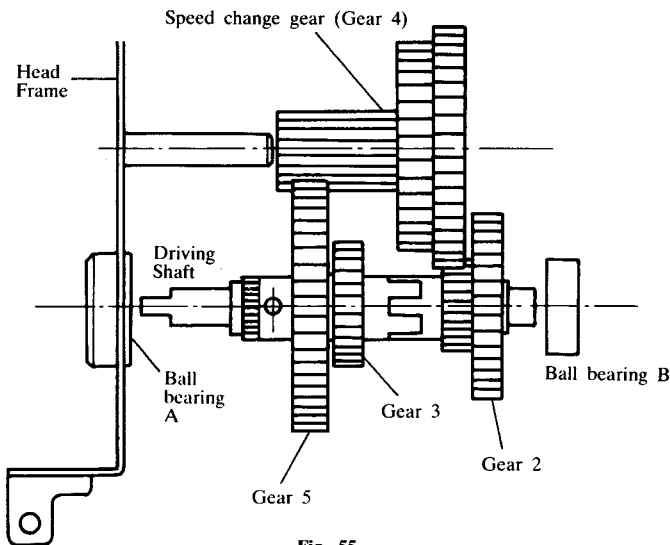

Fig. 55
(3) Put some grease on the shaft for speed change gear. With gearing the gear 4 with the gear 5 and the gear 2, install them to the shaft and the Ball bearing A simultaneously. (Refer to Fig. 55)
(4) Put the Ball bearing B to the end of the driving shaft.